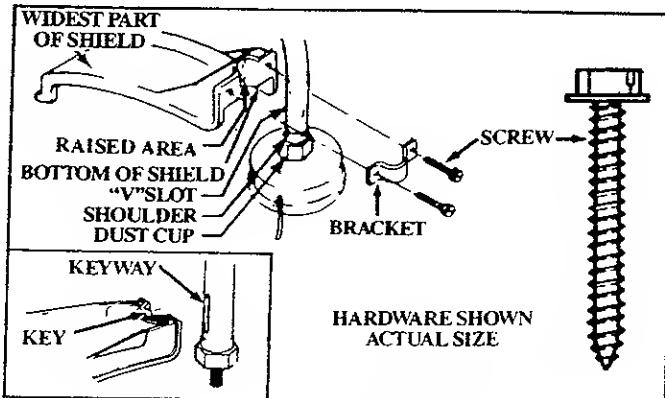

Figure 4
### 3. SHIELD — Figure 4
Failure to install the shield in the position shown in Figure 4 and 5 can result in serious injury to the operator. The length of the shield must be aligned with the length of the drive shaft housing. Direct the widest part of the shield toward the engine.
- Match the Key (Raised area) on the Shield with the Kayway ("V" slot) on the Drive Shaft Housing. Figure 4.
- Install the Screws as shown in Figure 4.